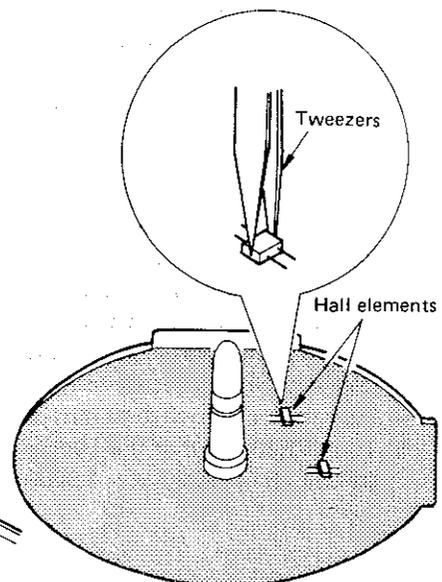

Fig. 13
3. Hold the Hall element with a tweezers and remove it while touching the soldering iron to the terminal. (Fig. 13)